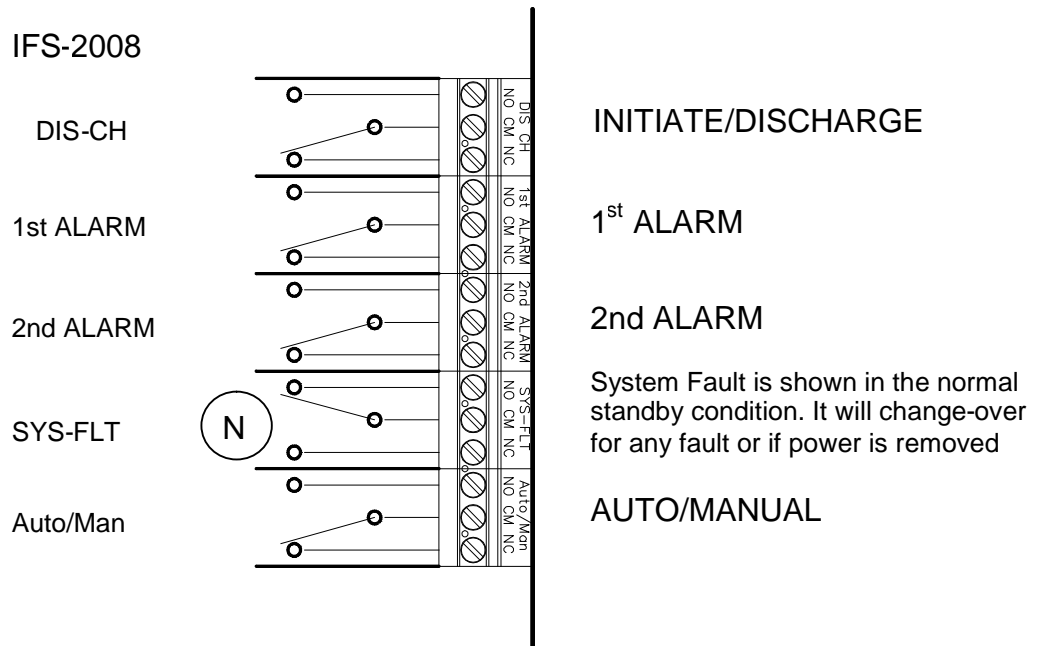

Figure 3.8 – Relay outputs
**NOTE:** The Fault (*SYS-FLT*) output relay is normally energized and will drop out during a fault condition. See Figure 3.8